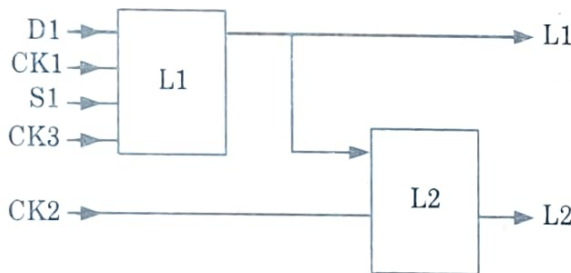

Fig. 5.14.1. Level sensitive scan design (LSSD) configuration.
- 1. This technique incorporates two aspects level sensitivity and a scan path approach. The general arrangement is indicated in Fig. 5.14.1.